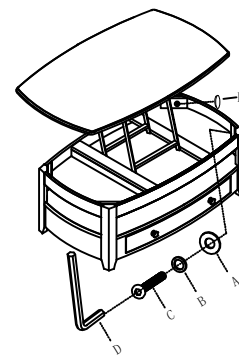

Figure 2
3. Turn the table upright ,assemble Top to the legs using Bolt (C), Lock Washer(B), Flat Washer (A) and tighten all bolts using Allen Wrench (D), as shown in Figure 2 .
5. Cover the bolt's hole by Plastic cap (F) under the lift top.